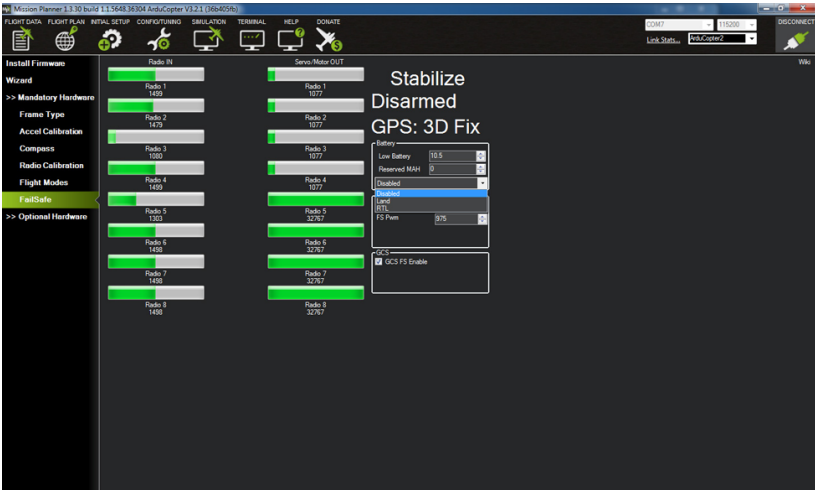

Figure 9-18. Battery FailSafe options.
- b. Now we need to set the action to take when our Battery Fail-Safe event takes place. We do this by selecting one from the drop-down menu in the same Battery field (see Figure 9-18). The options are: